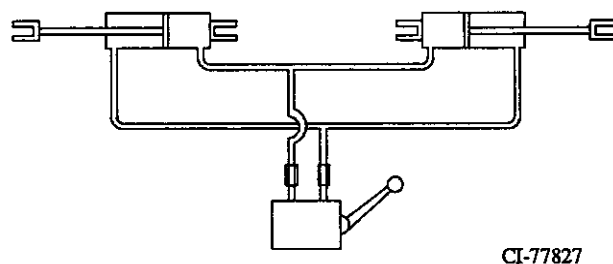

Fig. 3 Two Cylinder Wing Lift Circuit
Fig. 3 shows a simple two (2) cylinder circuit used to fold a pair of wings. This system is used on Wil-Rich cultivators with a single pair of folding